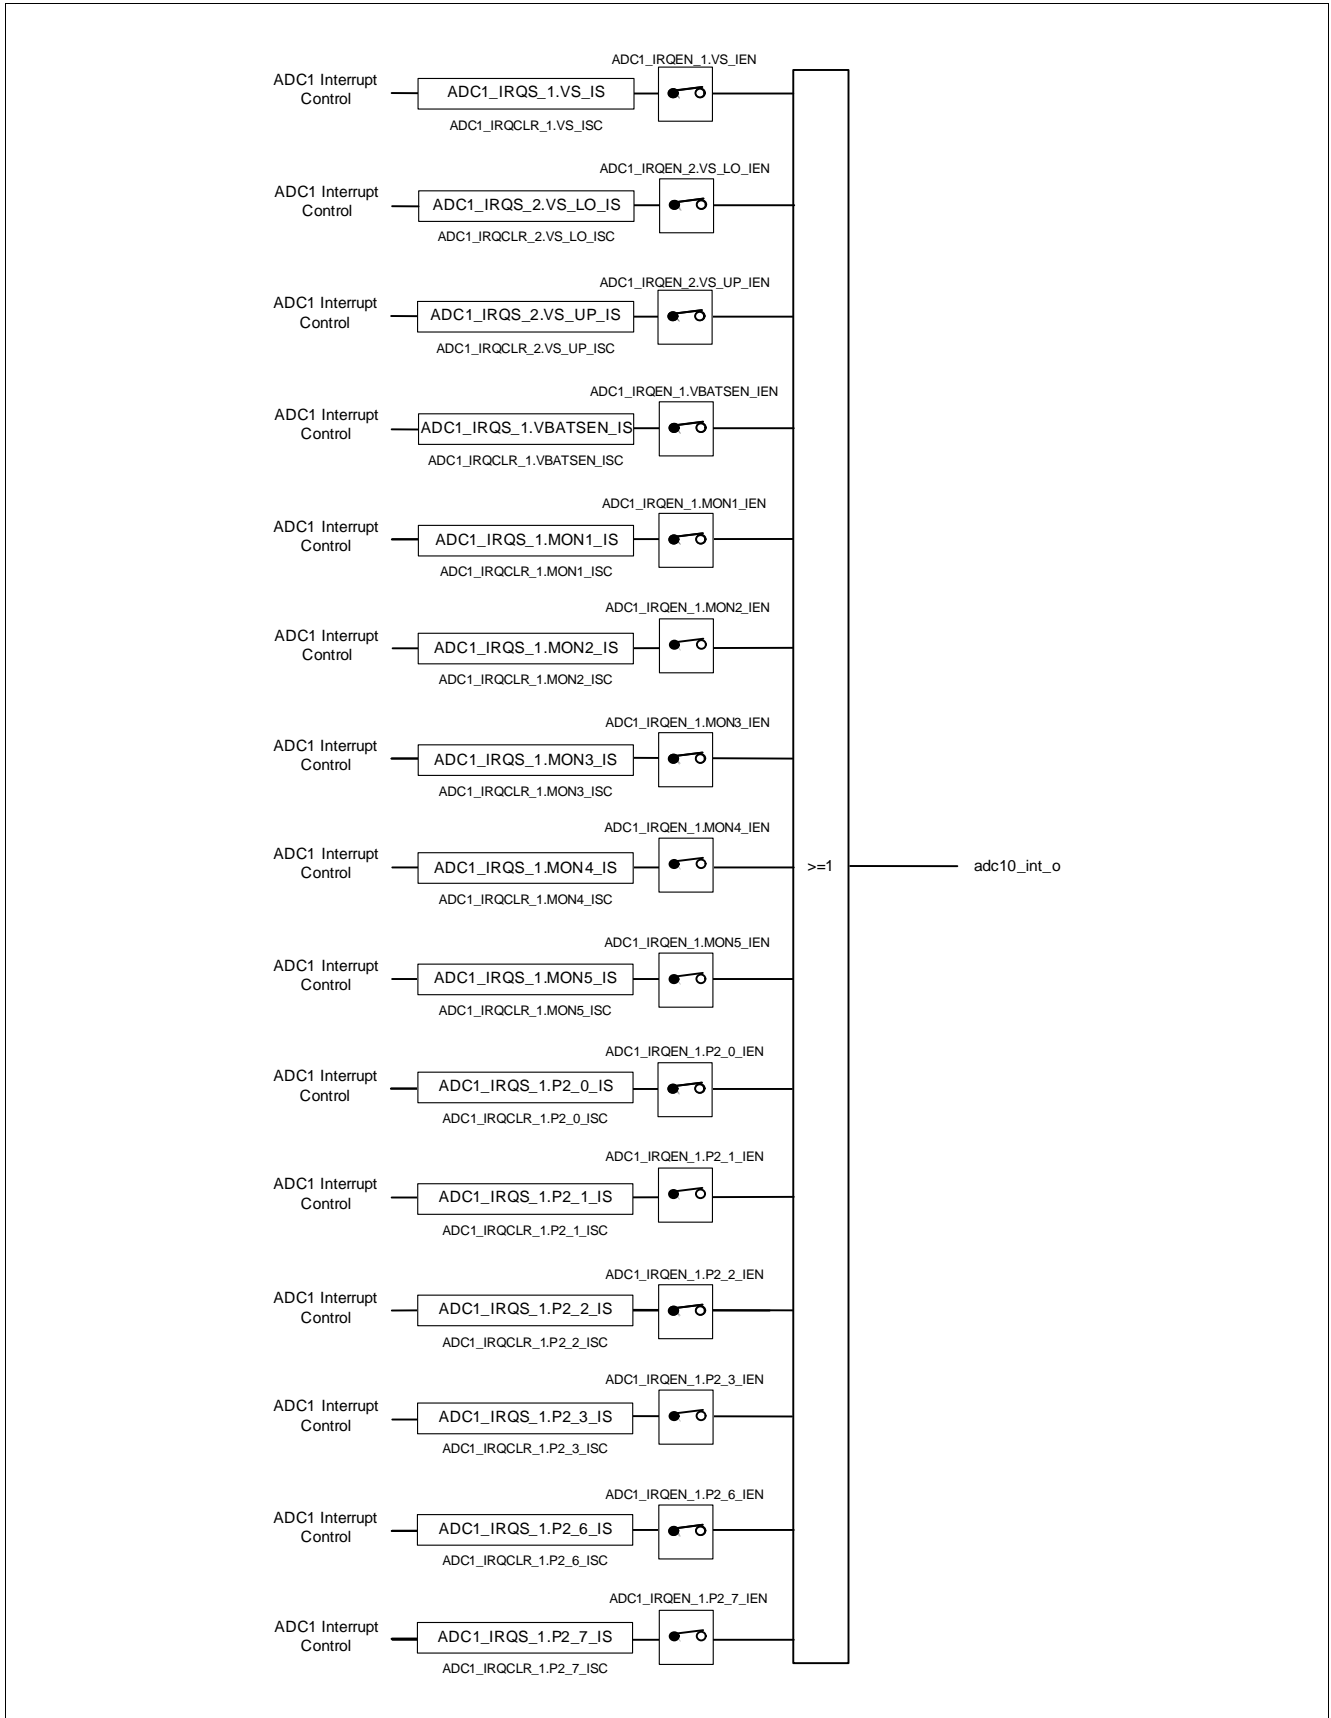

Figure 204 ADC1 Interrupt Generation of all existing channels
**Figure 204** shows the interrupt generation of ADC1. The generated interrupts are assigned to several nodes. The exact mapping can be read in the corresponding interrupt chapter of this device.